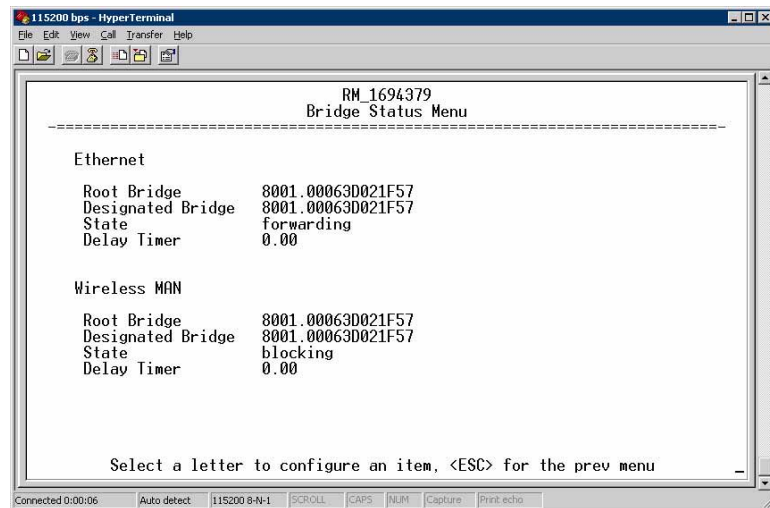

Figure 3-73. Bridge Status Menu
- ¥ **Bridge Status** □ Displays the network bridge status. (See Figure 3-73 on Page 103.)